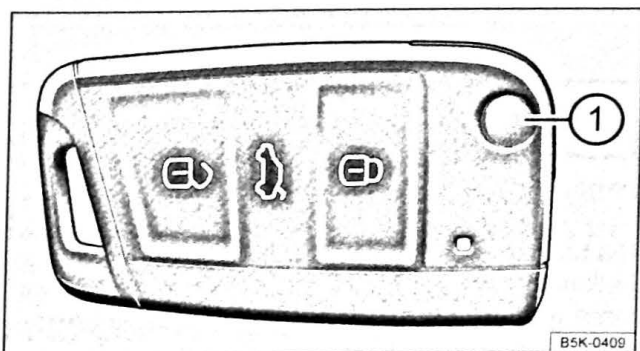
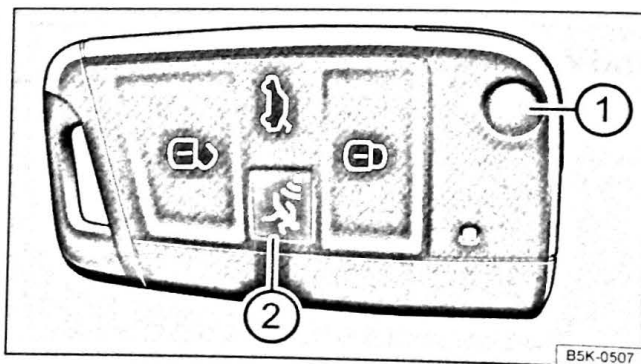

Fig. 22 Vehicle key
Fig. 23 Vehicle key with alarm button
Press button ⇒ Fig. 22 ① or ⇒ Fig. 23 ① to release the key bit and fold it out.
**i** If the buttons ⇒ Fig. 22 or ⇒ Fig. 23 on the vehicle key or one of the central locking buttons ⇒ page 46 are pressed repeatedly within a short period of time, the central locking system will switch off briefly to prevent overloading. The vehicle will then be unlocked. Lock the vehicle if necessary.